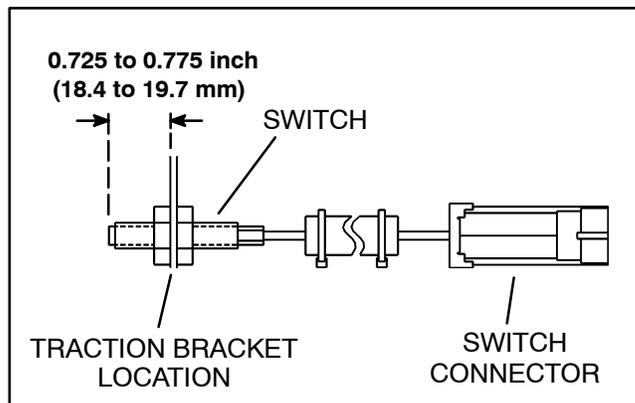

Figure 15
6. The distance between the sensing end of each switch and the traction bracket should be from 0.725 to 0.775 inch (18.4 to 19.7 mm) (Fig. 15).
7. To adjust or install actuator, place functional control lever in the NEUTRAL position. Position actuator in lever until the NEUTRAL switch just closes and then rotate actuator two (2) complete turns closer to the NEUTRAL switch.